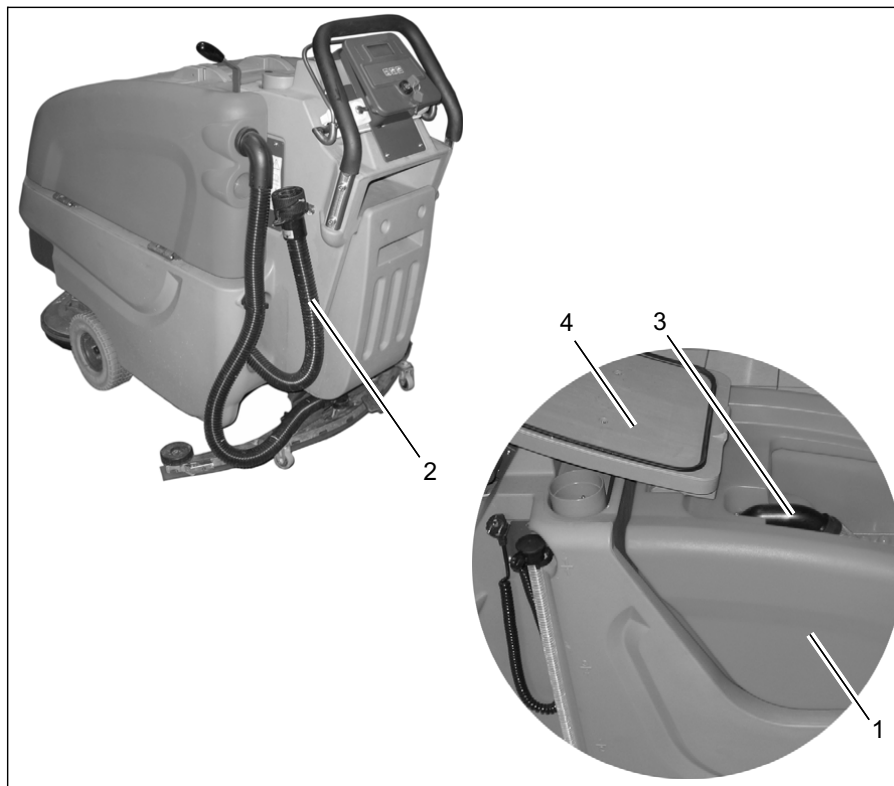

Fig.8
Clean recovery tank (Fig. 8/1) at daily intervals, as required or upon acoustic signal (increased vacuum motor speed).
4. Take drain hose (Fig. 8/2) from holder and empty recovery tank completely.
Clean recovery tank (Fig. 8/1) at daily intervals or as required.
2. Open tank lid (Fig. 8/4) of the recovery tank.
3. Take drain hose (Fig. 8/2) from holder and empty recovery tank completely.
Check suction filter (Fig. 8/3) for function at daily intervals and clean if required. The suction filter is clipped and can be easily removed.